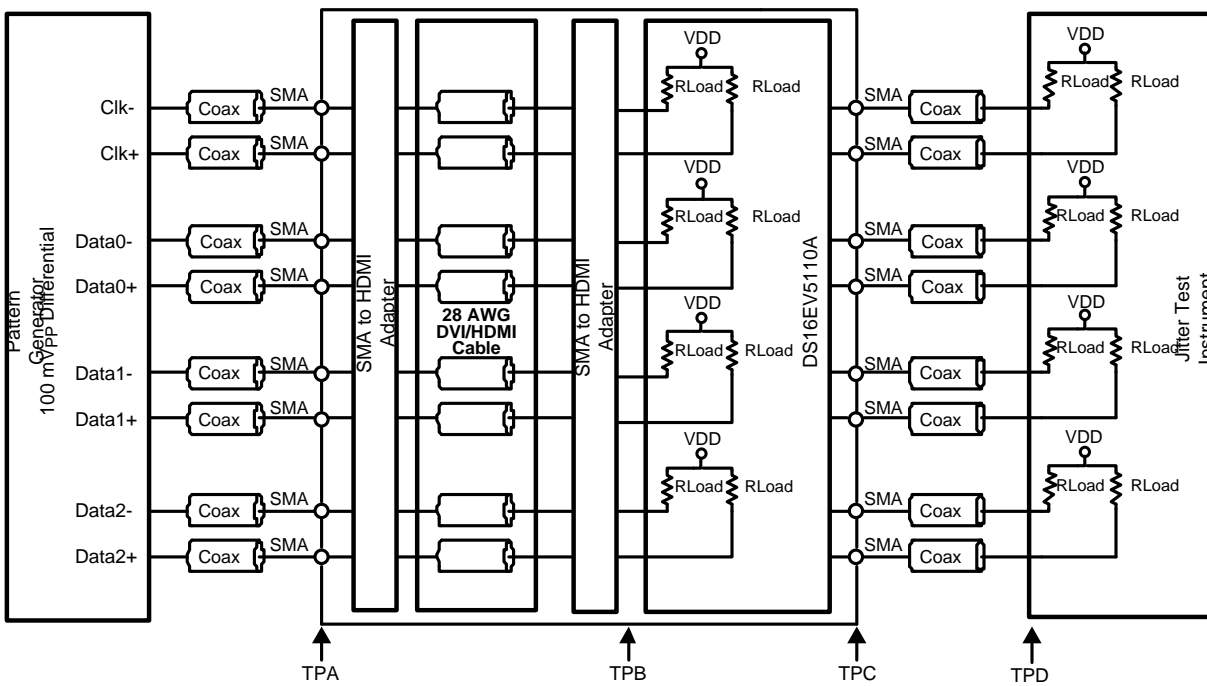

Figure 2. Test Setup Diagram for Jitter Measurement
| V TX                 | Input Voltage Swing (Launch Amplitude)              | Measured differentially at TPA (Figure 2)  | 800                  |       | 1200                 | mV P-P |
| V ICMDC              | Input Common-Mode Voltage                           | DC-Coupled Requirement Measured at TPA (Figure 2)  | V DD -0.3 |       | V DD -0.2 | V                 |
| V IN                 | Input Voltage Swing                                 | Measured differentially at TPB (Figure 2)  |                      | 120   |                      | mV P-P |
(3) Allowed supply noise (mVP-P sine wave) under typical conditions.
(4) Specification is ensured by characterization and is not tested in production.
(5) Deterministic jitter is measured at the differential outputs (TPC of Figure 2), minus the deterministic jitter before the test channel (TPA of Figure 2). Random jitter is removed through the use of averaging or similar means.
(6) Total Jitter is defined as peak-to-peak deterministic jitter from (5) + 14.2 times random jitter in psrms.
(7) Random jitter contributed by the equalizer is defined as  $\sqrt{J_{OUT}^2 - J_{IN}^2}$ . JOUT is the random jitter at equalizer outputs in psrms, see TPC of Figure 2; JIN is the random jitter at the input of the equalizer in psrms, see TPA of Figure 2.